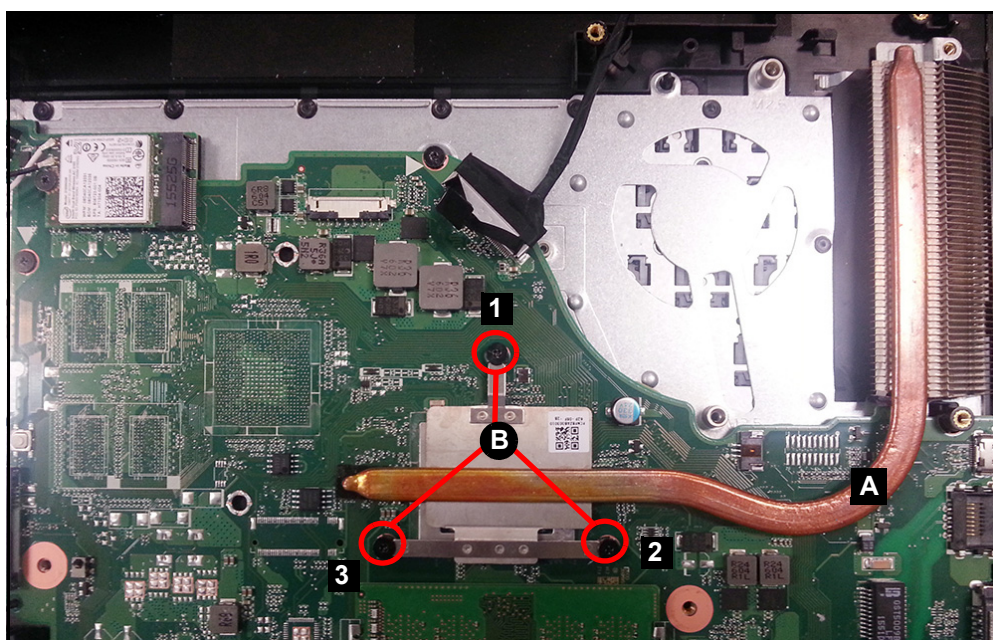

Figure 3-97. Replacing the Heatsink (UMA)
3. Place the heatsink (A) on the mainboard (Figure 3-97).
4. Install and secure three (3) screws (B) in numerical order from one (1) to three (3) to the mainboard (Figure 3-97). Ensure the heatsink is properly aligned and seated.